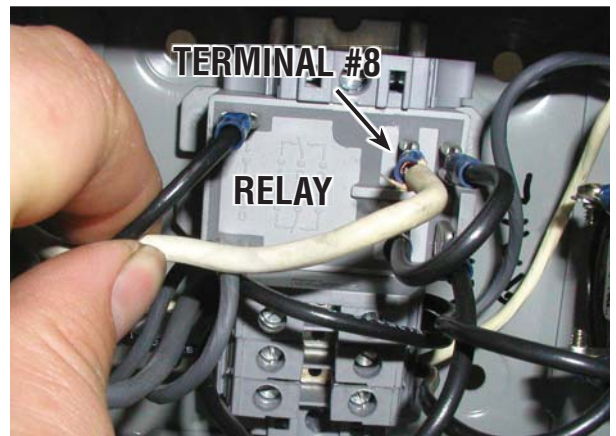

FIGURE 24
21. Strip 1/4" of insulation from the ends of each wire. Crimp a supplied push-on terminal on the white wire. Connect this wire to terminal #8 on the relay (this will be the only open terminal on the relay). See Figure 24.